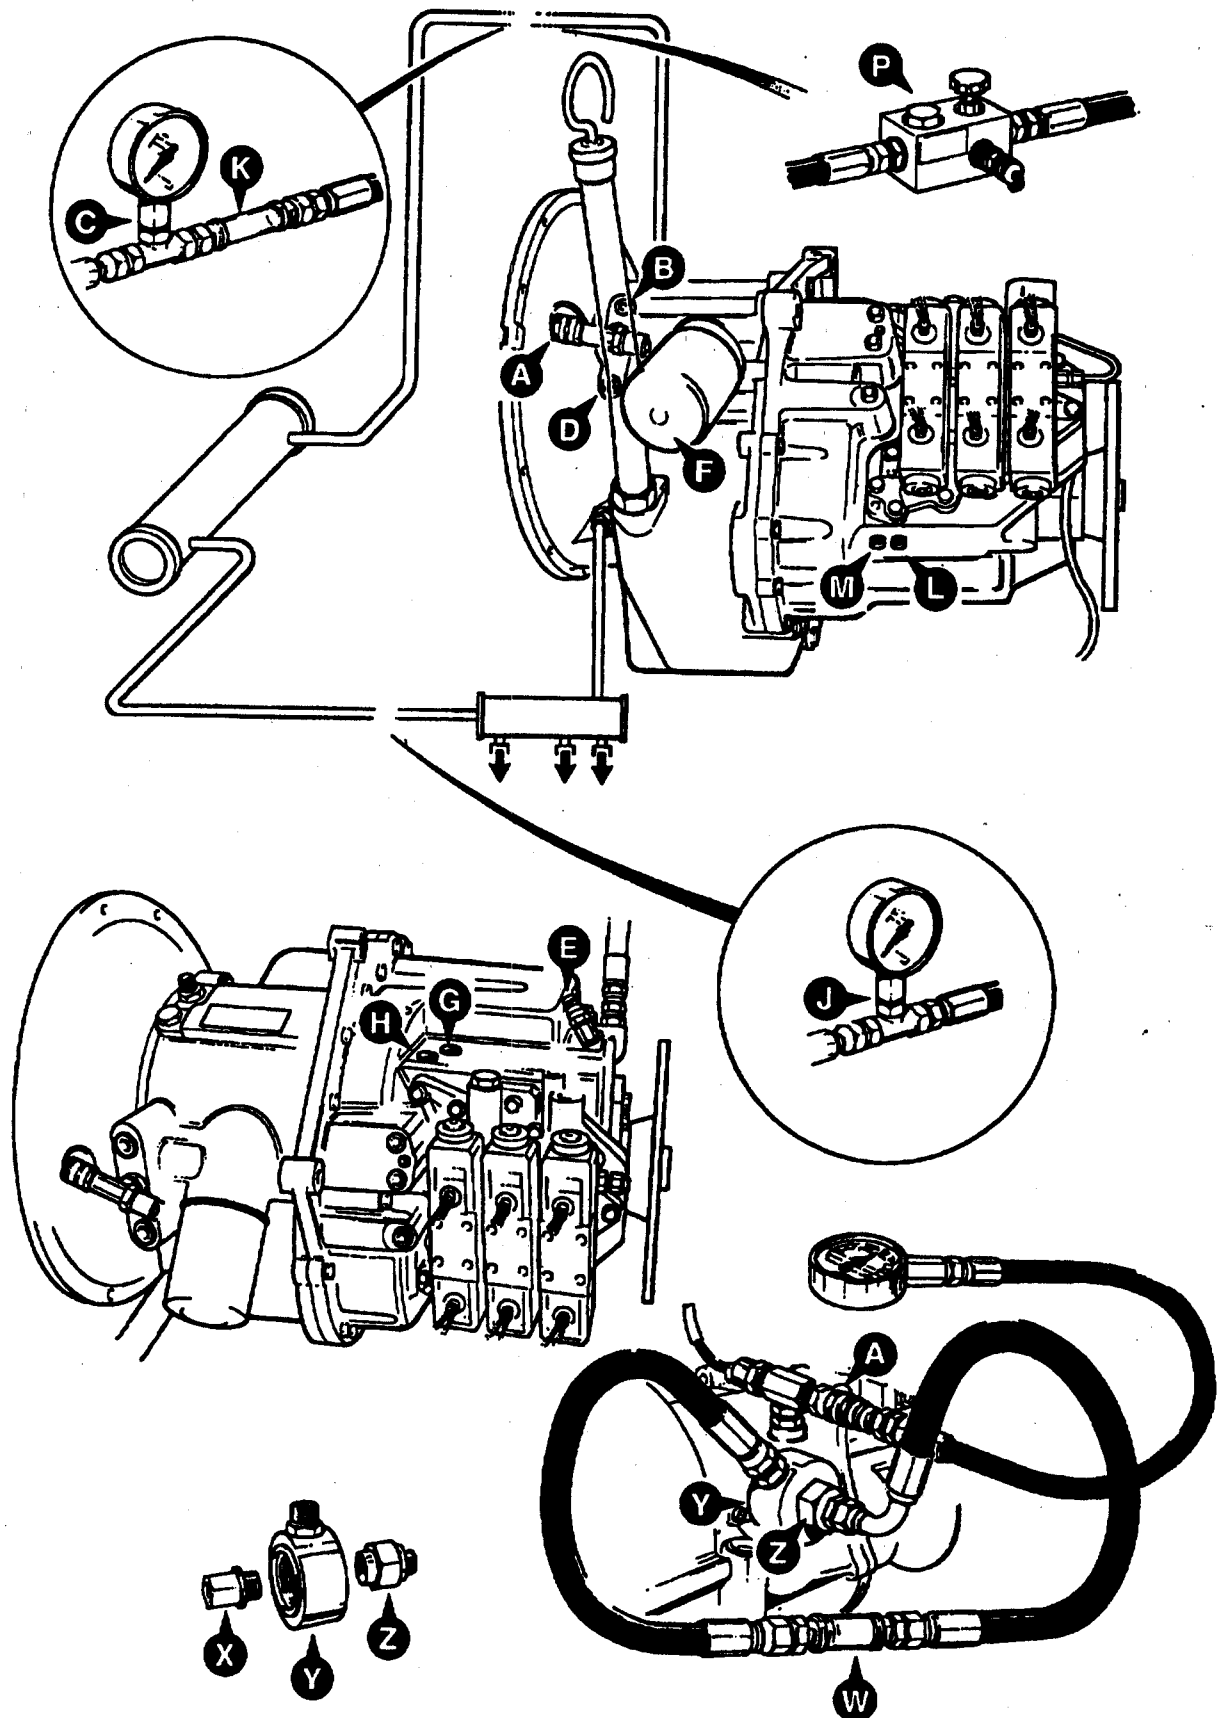

Figure 13.
1. Stop engine, connect a 0-300 psi (0-2040 kPa) pressure gauge to test connector A, Figure 13 (mainline pressure test point).
When testing other suspect clutches, connect a gauge to the relevant suspect clutch test point. See Figure 13 for the position of individual clutch pressure test points. Because the reverse clutch high clutch is suspect, a gear must be selected that will use the reverse high clutch, in this instance 2nd gear forward.
Refer to Figure 13.